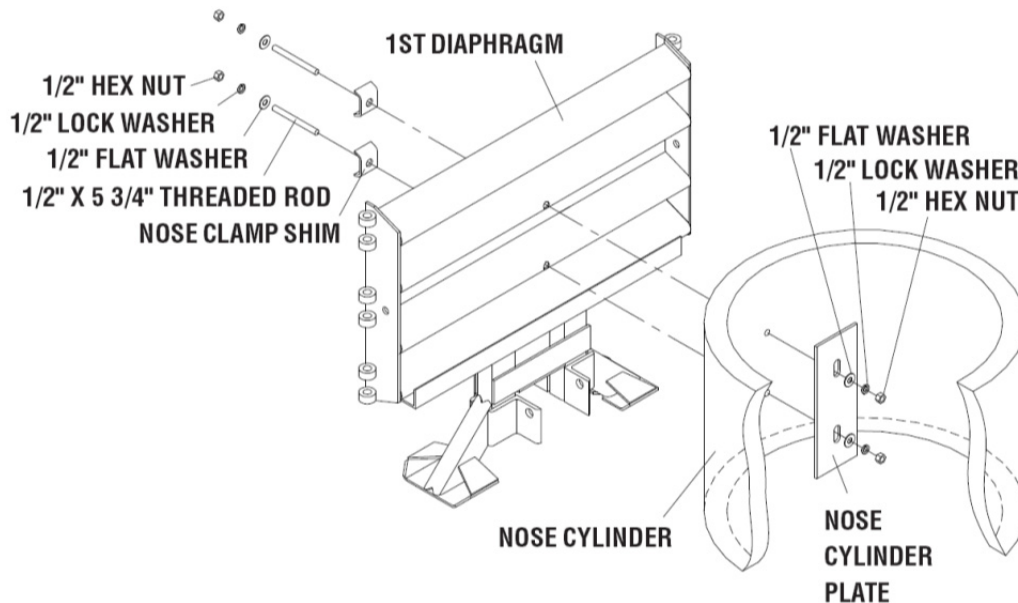

Figure 63
Attach the Nose Cylinder using (2) 1/2" x 5 3/4" long threaded rods through the Nose Cylinder Plate, Nose Cylinder, and Diaphragm (see Figure 63). Secure each 1/2" threaded rod with flat washers, nuts, and a Nose Clamp Shim and torque to 27 N-m [20 ft-lb] minimum to 80 N-m [60 ft-lb] maximum.